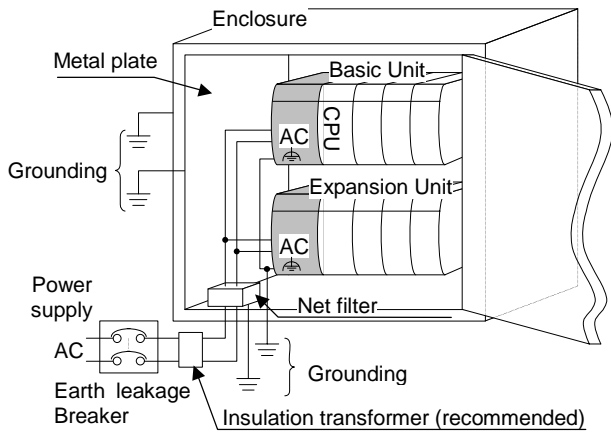

Figure 1 Power wiring example
- The basic and expansion unit should be connected to common power source and powered up together as shown in Figure 1.